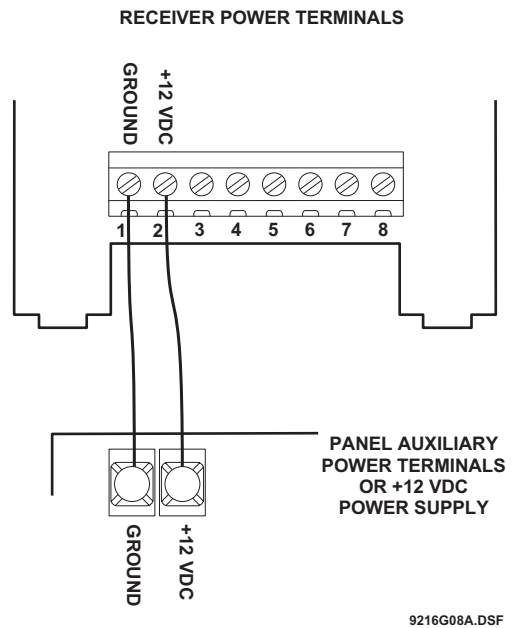

Figure 5. Connecting power to the receiver
- Using Figure 5 as a guide, connect the receiver to the panel or other equivalent power supply.